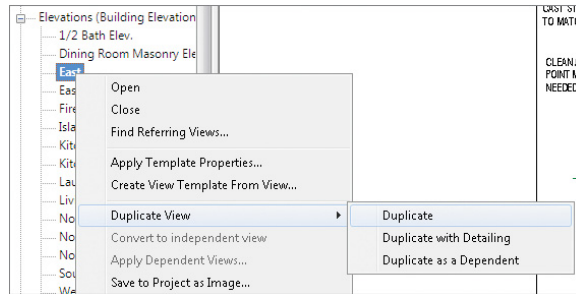

FIGURE 9.6 Duplicating a view
1. Navigate to the East elevation in the Project Browser. Then right-click the name East elevation and choose Duplicate View ➤ Duplicate (Figure 9.6). This will make a copy of the view but without any annotation elements.